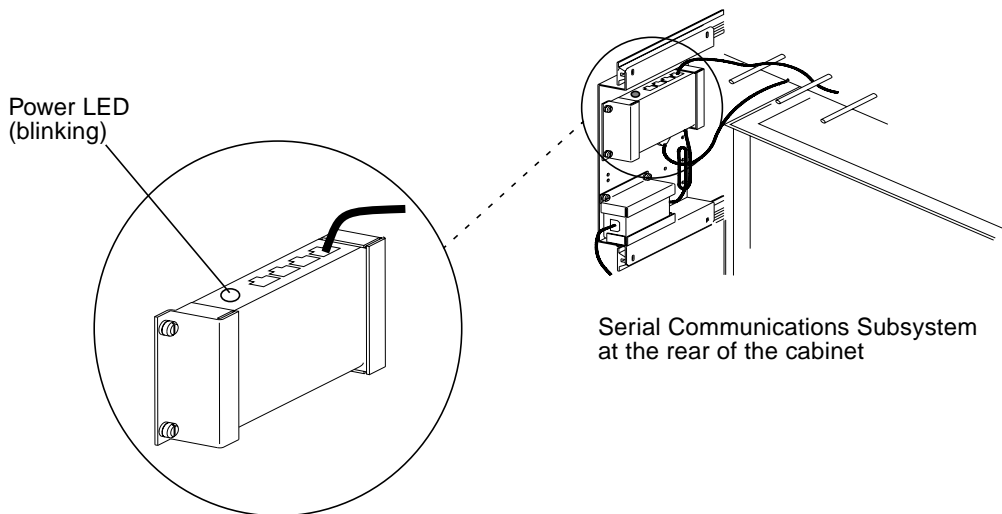

FIGURE 5-8 Serial Communications Subsystem Power Supply LEDs
1. **Make sure the cabinet is powered on, according to “Powering on the Cabinet and Checking Switches” on page 5-12. Make sure the System Console power supply power LED is on; this power supply is located to the left of the System Console. If the A7000 includes the Serial Communications Subsystem (inside the cabinet rear door), make sure its power LED is blinking. See FIGURE 5-8.**